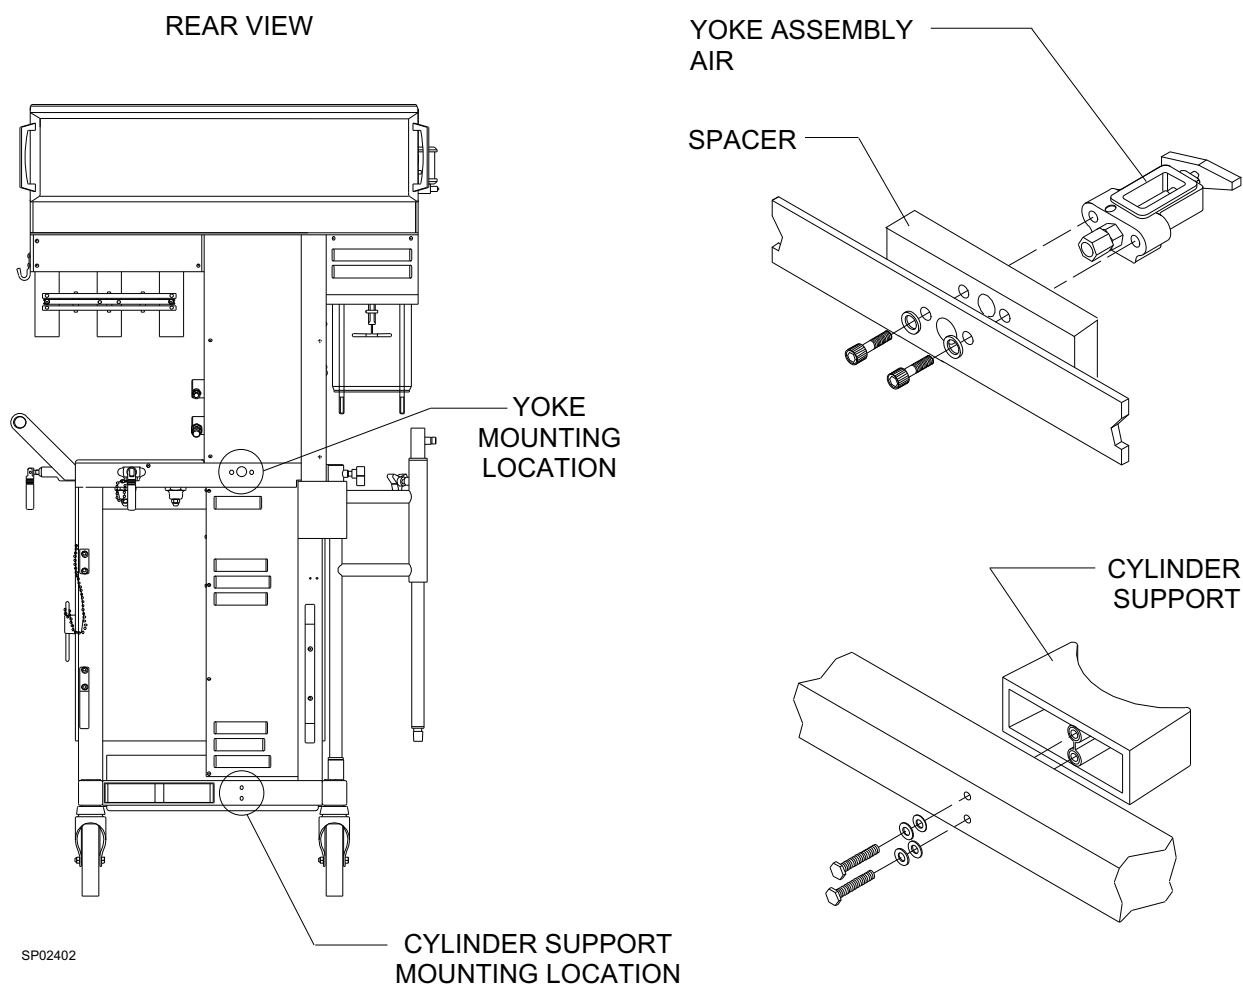

Figure 2: AIR YOKE AND CYLINDER SUPPORT MOUNTING LOCATIONS
15. Mount the cylinder support on the bottom frame rail at the back of the machine (see Figure 2) using two ¼-20 x 2½ in. hex head screws, lock washers and flat washers.
16. Mount the air yoke and spacer block on the upper frame rail of the machine as shown in Figure 2. Use two 5/16-24 x 3/4 in. socket head screws and lock washers. Ensure that the yoke has a "AIR" label.